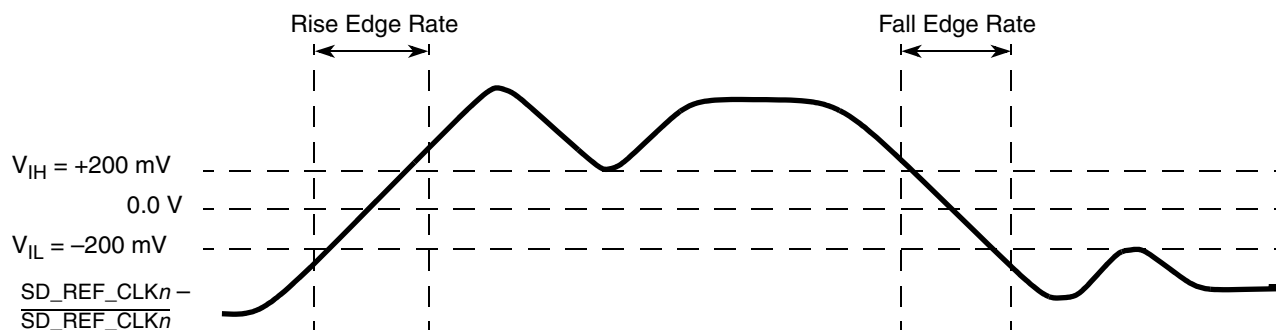

Figure 40. Differential measurement points for rise and fall time
waveform is not referenced to ground. See Figure 40, “Differential measurement points for rise and fall time,” as an example for differential waveform.
- Measured from -200 mV to +200 mV on the differential waveform (derived from SD_REF_CLKn minus SD_REF_CLKn). The signal must be monotonic through the measurement region for rise and fall time. The 400 mV measurement window is centered on the differential zero crossing. See Figure 40.